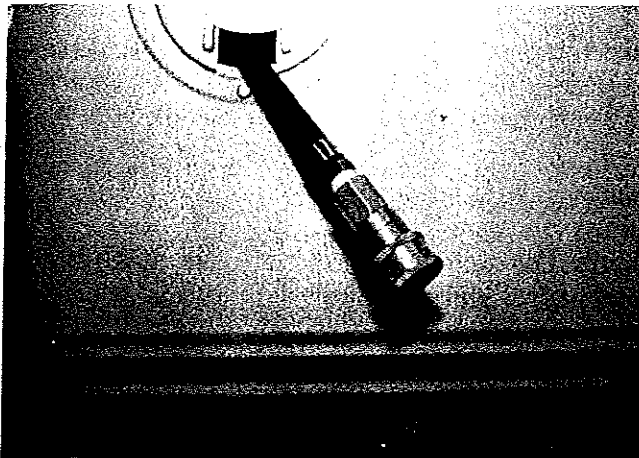

FIGURE 39
- H. Open the utility port on the curbside body panel and expose gas line. See Figure 39.
**NOTE:** The Cedar, Cedar XL, Royale, and Rio Grande models utilize two different types of gas hose quick disconnects. The quick disconnect for inside usage will have a positive shut-off lever as shown in Figure 30. The quick disconnect for outside usage does not utilize the positive shut-off lever as shown in Figure 39.